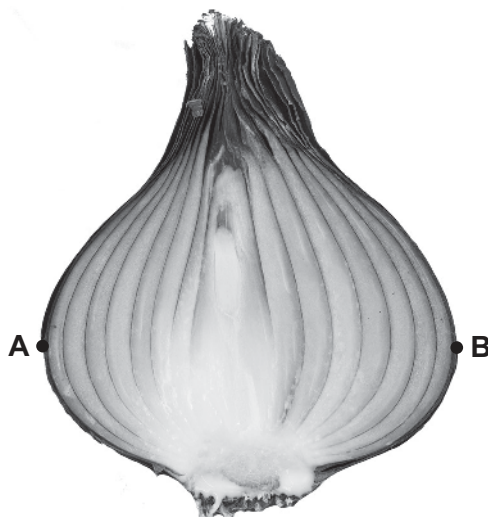

Fig. 1.1
1 Fig. 1.1 is a photograph showing the cut surface of an onion.
- (b) The photograph in Fig. 1.1 shows the onion in actual size.
The horizontal distance from point **A** to point **B** in Fig. 1.1 represents the diameter d of the onion.
- (i) Measure the diameter d of the onion in Fig. 1.1.